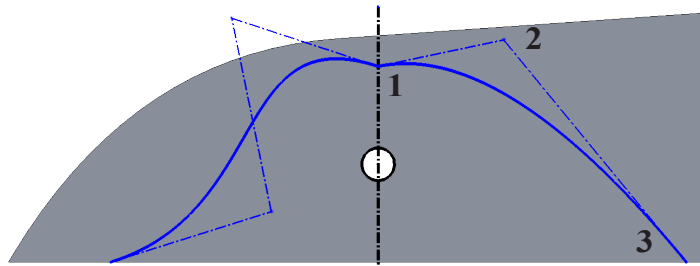

Fig. 71
Step 10. Sketch a **3 control vertex point Spline** top endpoint of style spline (at centerline) and edge of body on rear side of axle hole, **Fig. 71**. Press Escape to end spline.